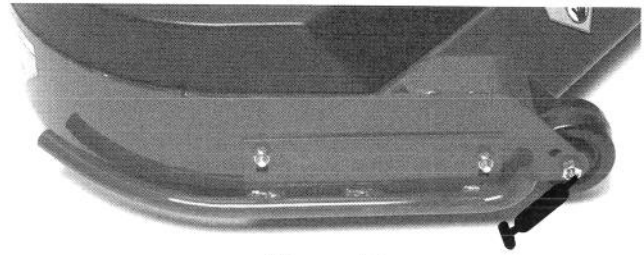
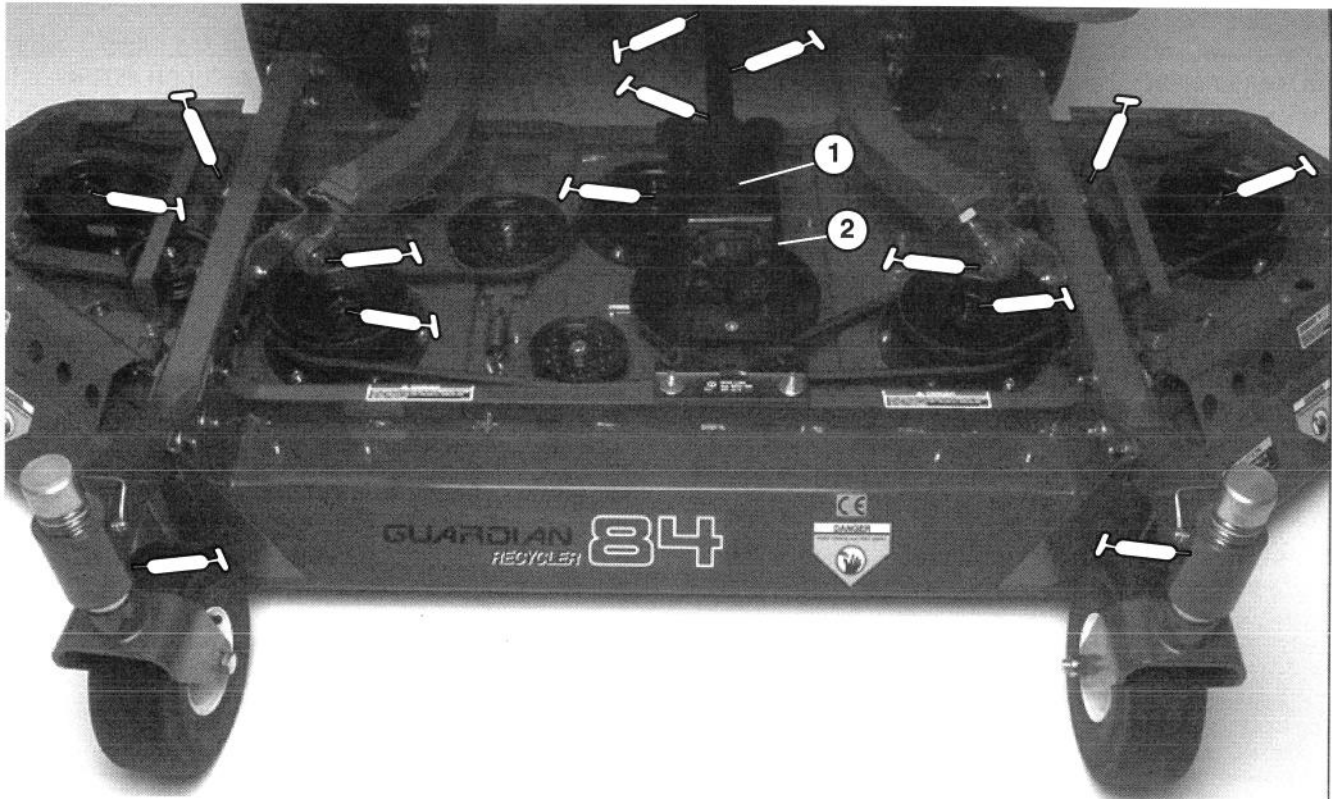

Figure 16
Figure 17
GREASE BEARINGS, BUSHINGS AND GEAR BOX (Fig. 17)
1. The cutting unit has bearings and bushings that must be lubricated, and these lubrication points are: anti-scalp roller (Fig. 16), front castor shaft bushings (2), blade spindle bearings (5), idler arm pivots (2), drive shaft (3), Wing deck pivots (2) and right and left push arm ball joints (Fig. 17).